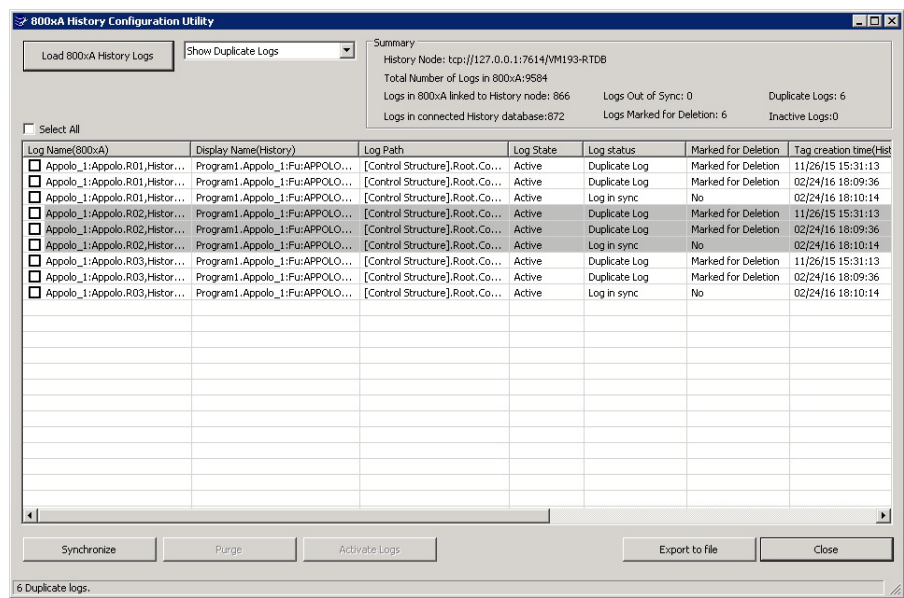

Figure 227. Show Duplicate Logs
2. Select the **Show Duplicate Logs** button as shown in the Figure 227, then all the duplicate History logs for the respective DataCollector node will be listed in the window.